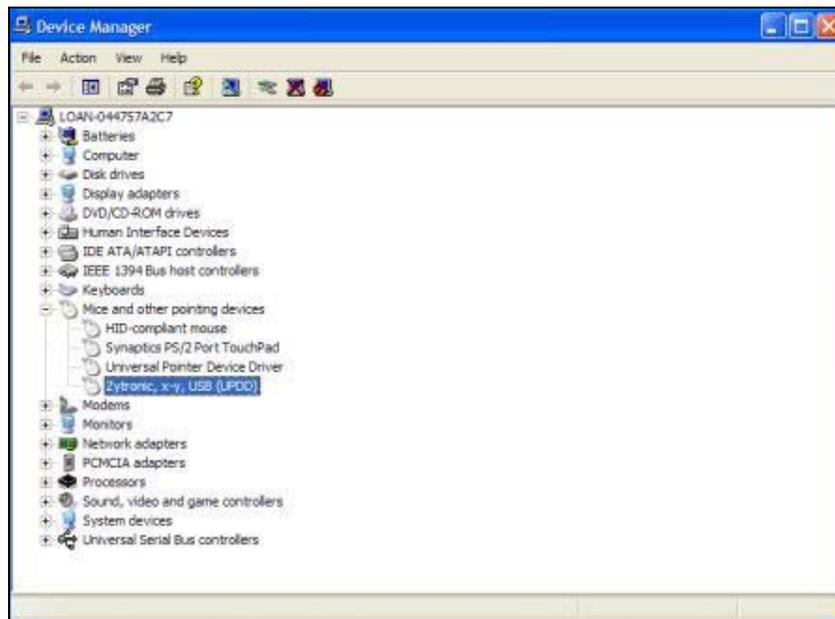

Figure 23: *Zytronic, x-y, USB (UPDD) device listed within the Windows Device Manager*
Having installed the USB touchscreen, the device can be seen registered within the Windows device Manager, as shown in Figure 23.
- The **Zytronic, x-y, USB (UPDD)** entry is located within the **Mice and other pointing devices** sub menu, as shown in Figure 23.